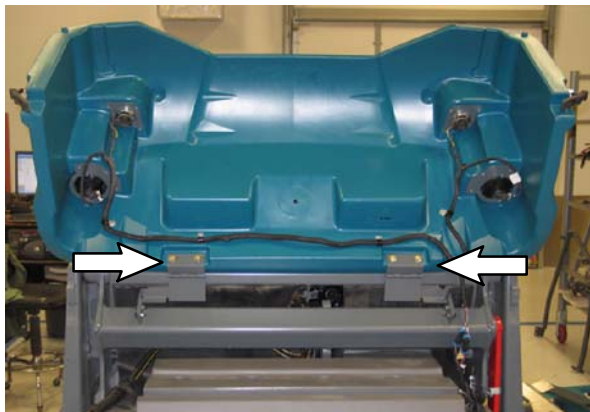

FIG. 18
25. Use four hex screws (18) and four flat washers (19) to install the hopper cover (1) onto the machine. (Fig 18)